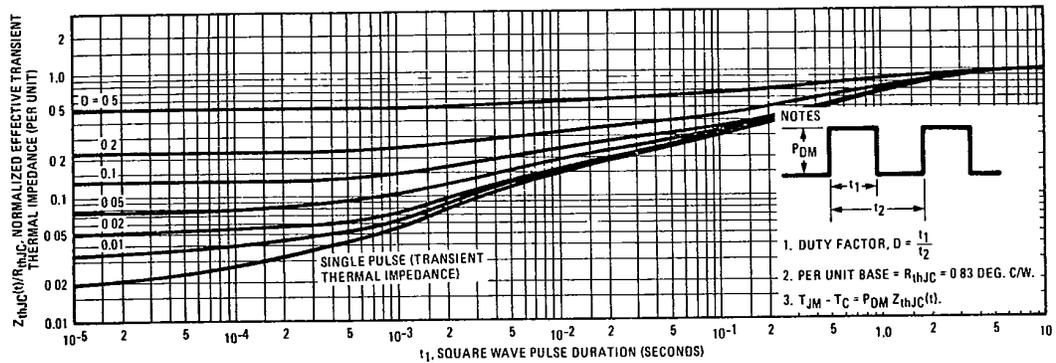

Fig. 5 - Maximum Effective Transient Thermal Impedance, Junction-to-Case Vs. Pulse Duration
① TJ = 25°C to 150°C. ② Pulse Test: Pulse width ≤ 300μs, Duty Cycle ≤ 2%. ③ Repetitive Rating: Pulse width limited by max. junction temperature. See Transient Thermal Impedance Curve (Fig. 5).